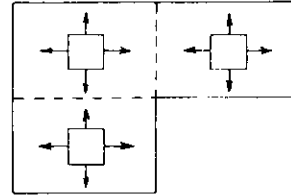

FIG. 3 - Mount the unit on the ceiling at the center of area to be cleaned.
The electronic Air Cleaner should be mounted in the ceiling grid near the center of the room. Air is drawn into the bottom of the Air Cleaner and discharged in four (4) directions. Divide larger rooms into sections and use a unit in the center of each section (see Fig. 3).